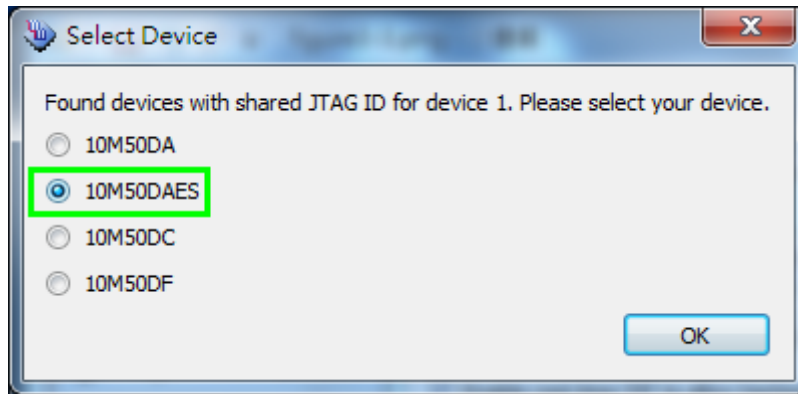

Figure 3-3 Select 10M50DAES device
2. Select detected device associated with the board, as circled in Figure 3-3.